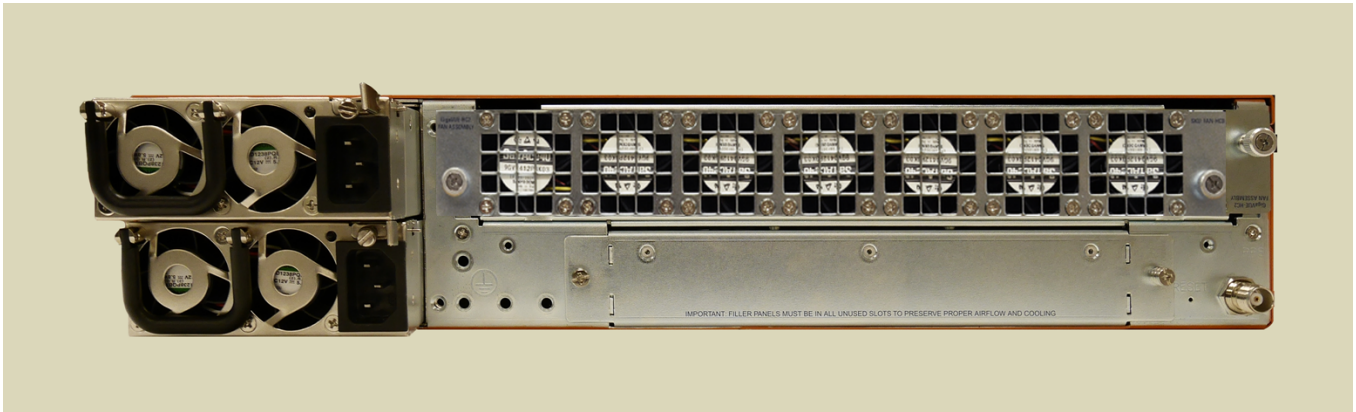

Figure 4 Power Module (AC Version Shown)
3. Carefully slide the first power module into the matching receptacles at the rear of the node (Figure 4 Power Module \(AC Version Shown\)), making sure to fit the tab at the base of the module into the matching bay at the bottom of the receptacle. Push gently to seat the unit firmly in the chassis.